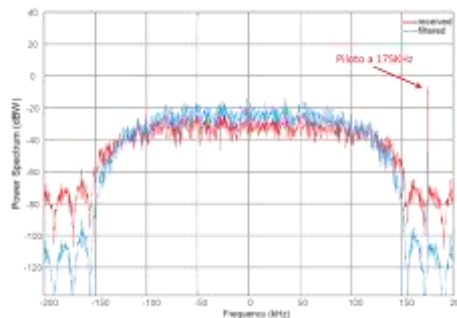

Figure 7: Spectra at the input of the receiver and at the output of the “Square Root” filter.
4.3.2) Run the simulator and analyse the spectra at the input of the receiver and at the output of the “Square Root” filter as shown in Figure 7. It is possible to observe, added to the QPSK signal spectrum, a pilot signal that should be at a frequency of $f_{ref} = 175\text{KHz}$.